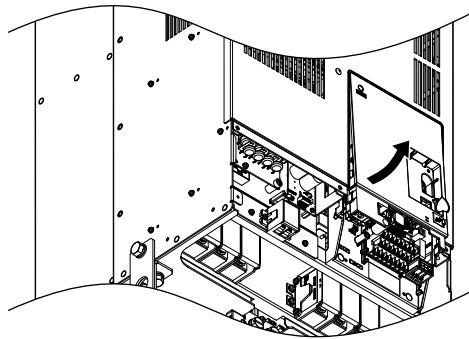

Figure 3.19 Remove the Front Cover (Drive Models 2□0154 to 2□0248 and 4□0156 to 4□0414)
4. Unhook the left side of the front cover then swing the left side towards you as shown in Figure 3.19 until the cover comes off.